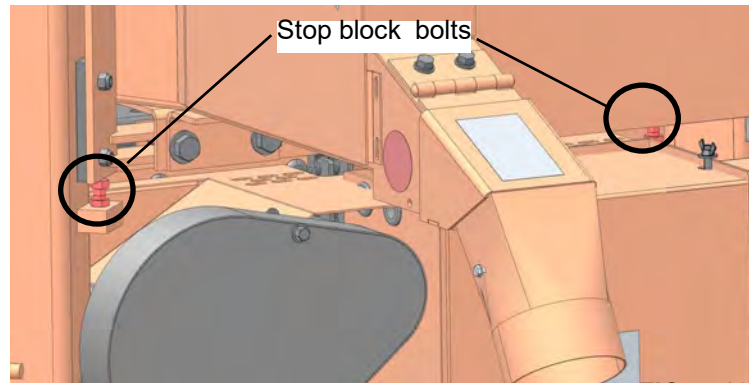

FIG. 4-10
**CAUTION!** It is important that the lower stop bolts are properly adjusted to secure the carriage on the track rail. Failure to properly adjust the stop bolts can cause saw head damage, especially during mill transportation. See FIG 4-10.
13. If necessary, adjust the stops located at the bottom of the mast so the saw head contacts them after it is lowered 3/4" (19mm) past where it contacts the rest pin. See FIG. 4-10.